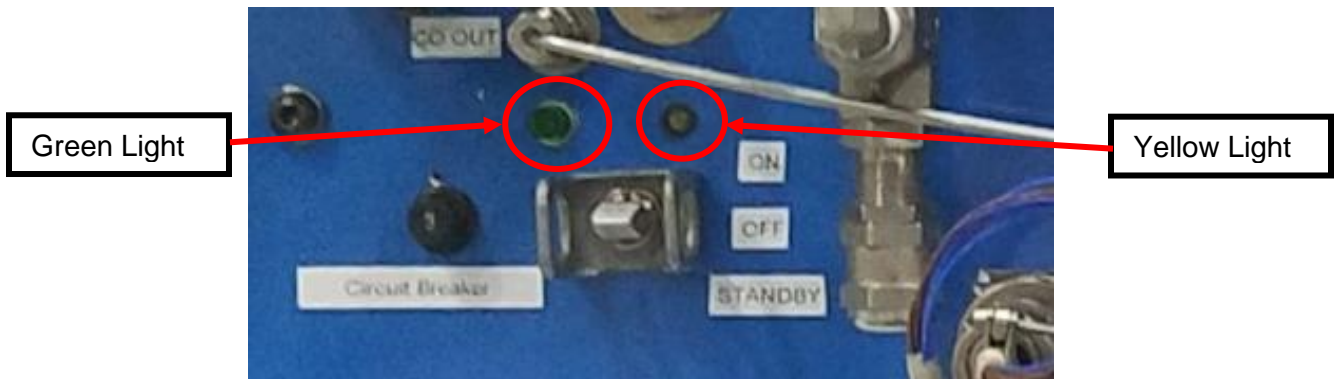

Figure 4: Sabatier Panel
3.1 On the Sabatier Panel, move the power switch to "STANDBY" (see Figure 4).
3.2 Confirm yellow light blinks indicating Sabatier is in Standby mode (see Figure 4).
- 5.2 Switch Sabatier to "ON" (see Figure 4).
- 6.1 After the filtering time has been completed, on the Sabatier Panel, move the power switch to "STANDBY" (see Figure 4).
- 6.2 Confirm yellow light blinks indicating Sabatier is in Standby mode (see Figure 4).
- 7.1 Switch Sabatier to "ON" (see Figure 4).